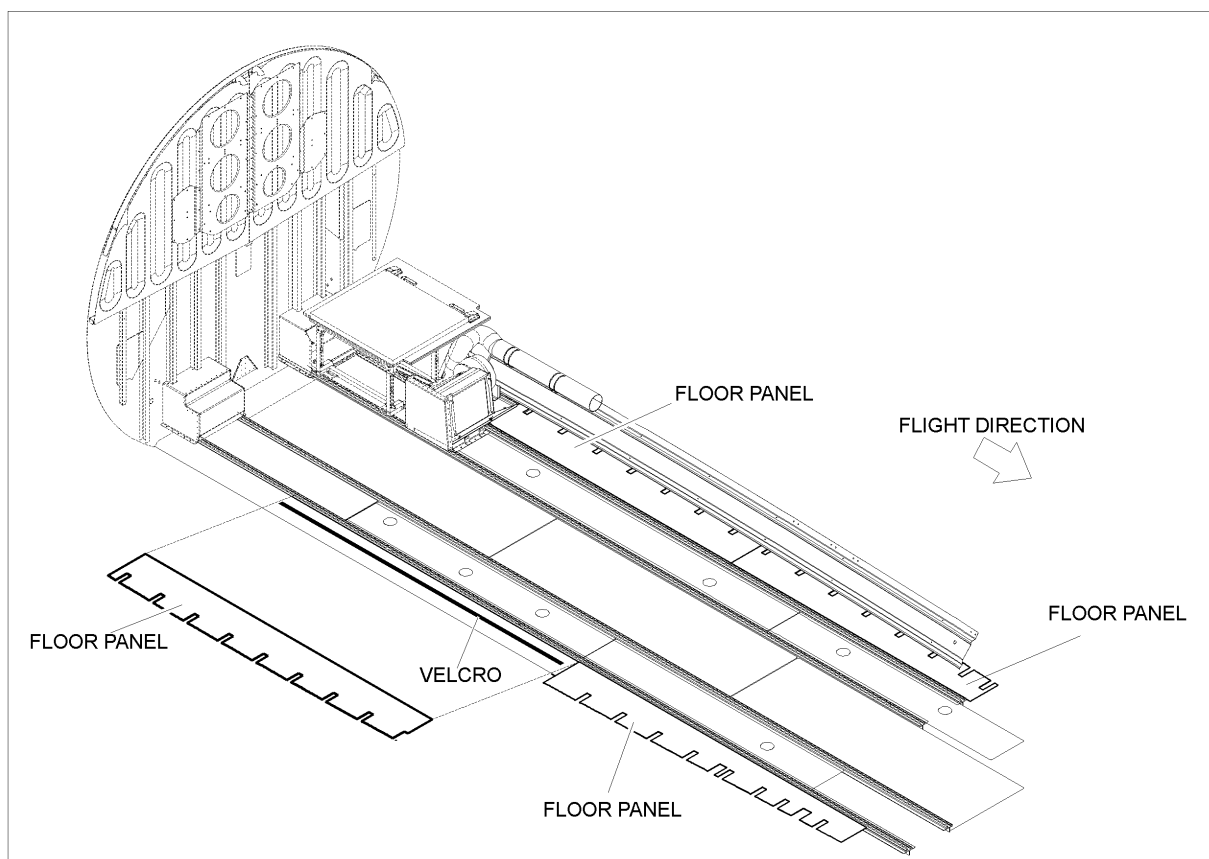

Fig. 228 - Floor Panels (Ferry Flight Configuration) - Removal
50. Floor Panels (Ferry Flight Configuration) - Removal(Ref. to Fig. 228)